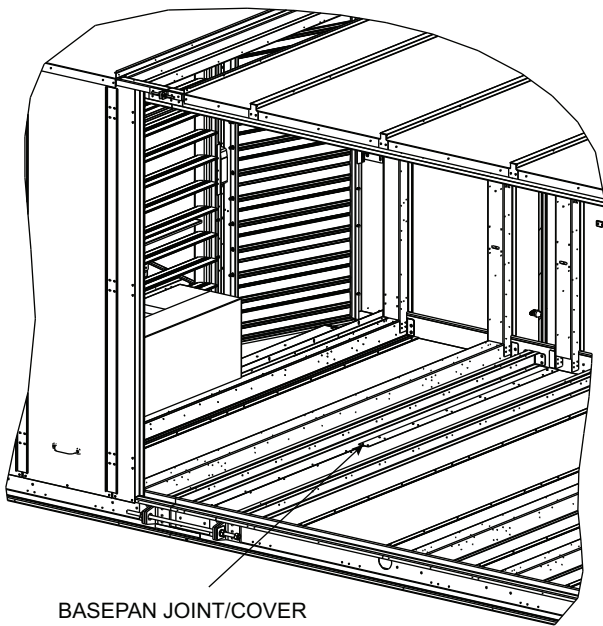

Fig. 43 — Basepan Joint/Cover
12. Place seal strip along both sides of basepan joint. Attach basepan covers to basepan joint. See Fig. 43.